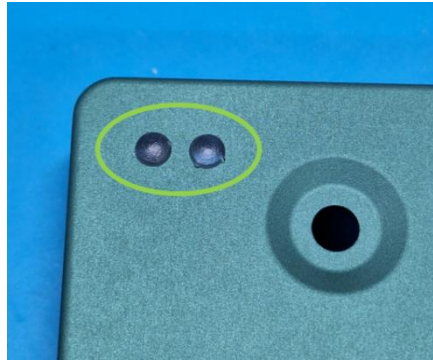

Figure 7: LED light pipes
1. Install two LED light pipes in the designated holes as shown in Figure 7. The light pipes are press fit.